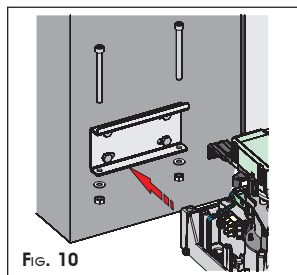

FIG. 10
- ④ Position the operator on the bracket you have just secured, using two M8x100 screws and the relevant nuts - supplied (Fig.10).